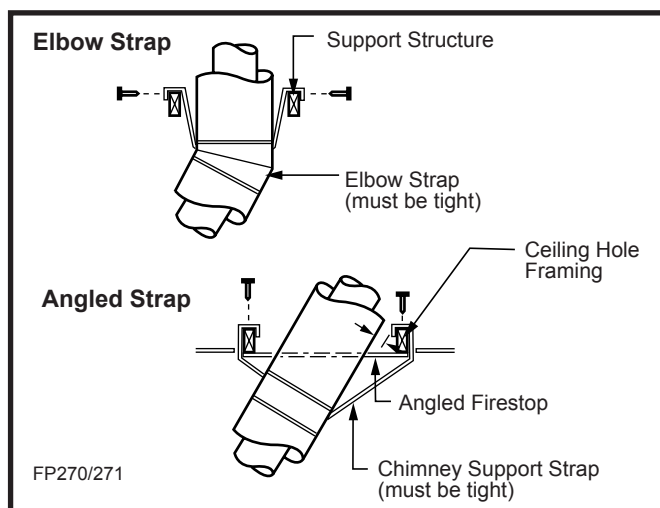

Fig. 17 Attach straps to a structural framing member.
**CAUTION: When installing a fireplace in an insulated enclosure, be sure all required air spaces are maintained. (Page 13, Fig. 17)**
When installing elbows, only outer pipe will snap-lock. Middle pipes simply slide into position. Be sure to always attach straps on upper elbow to a structural framing member. (Fig. 17)